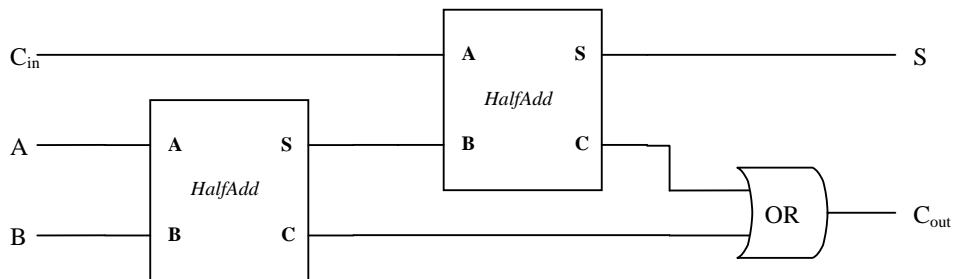

Figure 2: A Full Adder Circuit using 2 Half Adders
9. Using the *HalfAdd* module given in the Lab Guide, implement the *FullAdd* module by instantiating 2 *HalfAdd* modules, and connecting them as shown in Figure 2. Use the *assign* statement to generate the C_{out} signal by performing a bitwise OR of the two half-adder carry signals. At this point the design is complete.